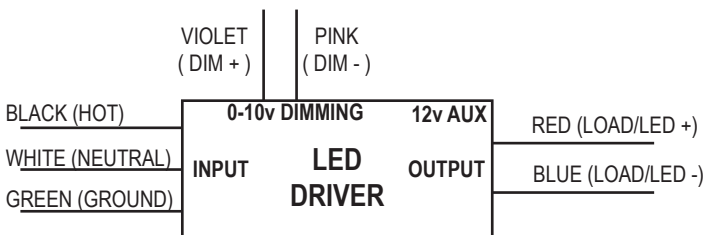

FIG.1
Verify voltage of AC supply before connect. Separate and cap the 0/1-10V dimming wires, if opt not to utilize the dimming function. (Figure 1)
- 3 Connect Wiring and Final Check - Connect the LED high bay wiring to incoming power lines, referring to the Wiring Diagram (Figure 1). Use only UL listed wire or conduit (not supplied). Note that the purple and pink wires inside the driver compartment are for 0-10V (low voltage) dimming and should be connected to low voltage wiring only. Double-check all hanging hardware before proceeding to the next installation.
- 3 Connect the main power wires to the fixture wires, referring to the Wiring Diagram (Figure 1). Ensure all wire connectors or terminal caps are placed inside the junction box or fixture driver box. (Figure 8)
3 Make the wiring connections according to the Wiring Diagram (Figure 1). Ensure the bridged wires are UL listed and wrapped with flexible protective conduit (not supplied). Install the both side covers of the bracket with screws to hide the wires. (Figure 11) All wire connectors or terminal caps should be placed inside the pendant box. (Figure 12)